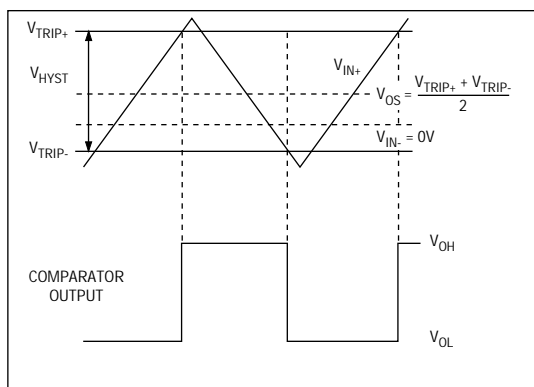

Figure 1. Input and Output Waveforms, Noninverting Input Varied
- Note 1:** Trip Point is defined as the input voltage required to make the comparator output change state. The difference between upper ( $V_{TRIP+}$ ) and lower ( $V_{TRIP-}$ ) trip points is equal to the width of the input-referred hysteresis zone ( $V_{HYST}$ ). Specified for an input common-mode voltage ( $V_{CM}$ ) of 0V. See Figure 1.
- Note 2:** Input Offset Voltage is defined as the center of the input-referred hysteresis zone. Specified for  $V_{CM} = 0V$ . See Figure 1.
Adding hysteresis to a comparator creates two trip points: one for the input voltage rising and one for the input voltage falling (Figure 1). The difference between these two input-referred trip points is the hysteresis.
Figure 1 illustrates the case where IN- is fixed and IN+ is varied. If the inputs were reversed, the figure would look the same, except the output would be inverted.